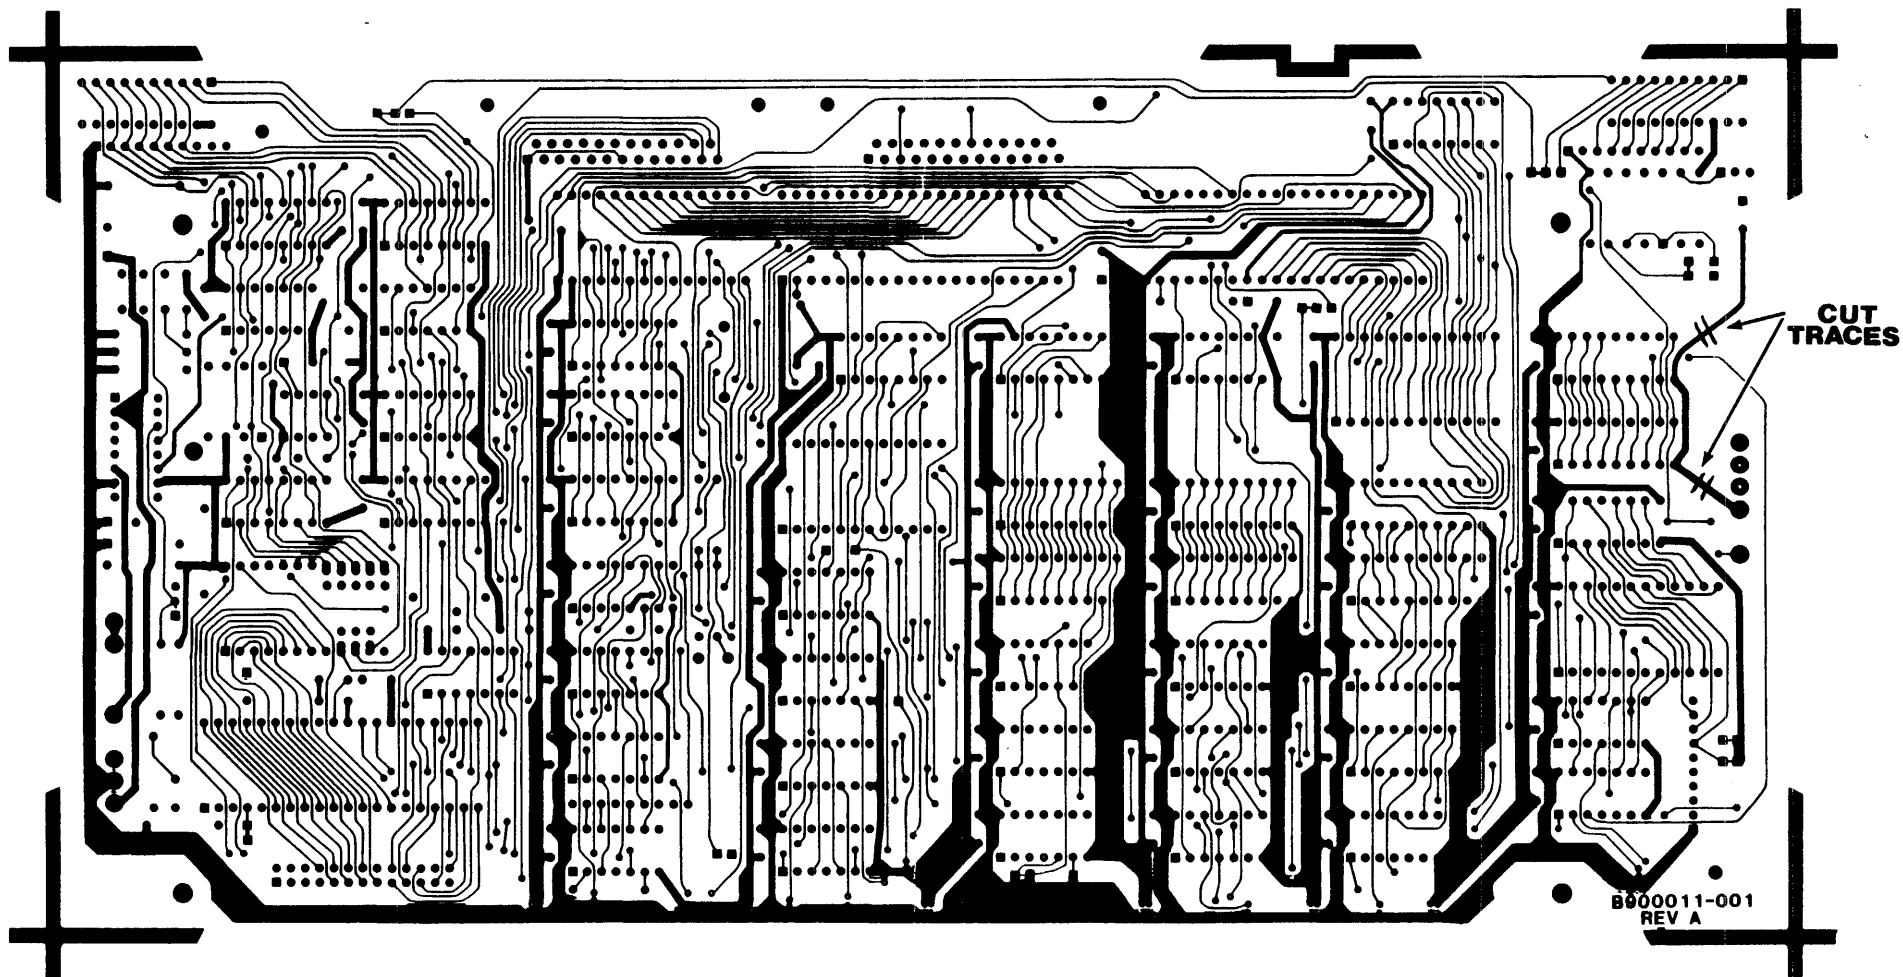

Figure 3-1 Location of Cuts to be Made on Component Side of the Logic Board
1. Cut the traces on the component side of the logic board as shown in Figure 3-1.